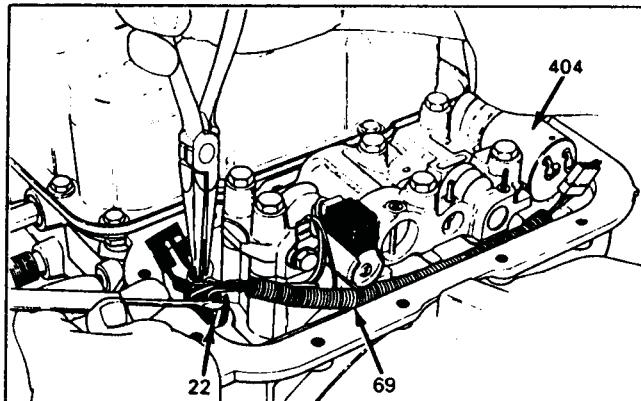

Figure 5
8. Disconnect the wiring harness from the adapter case electrical connector using a screwdriver to pry back the locking tab, and pliers to pull the connector from the case (See Figure 5).